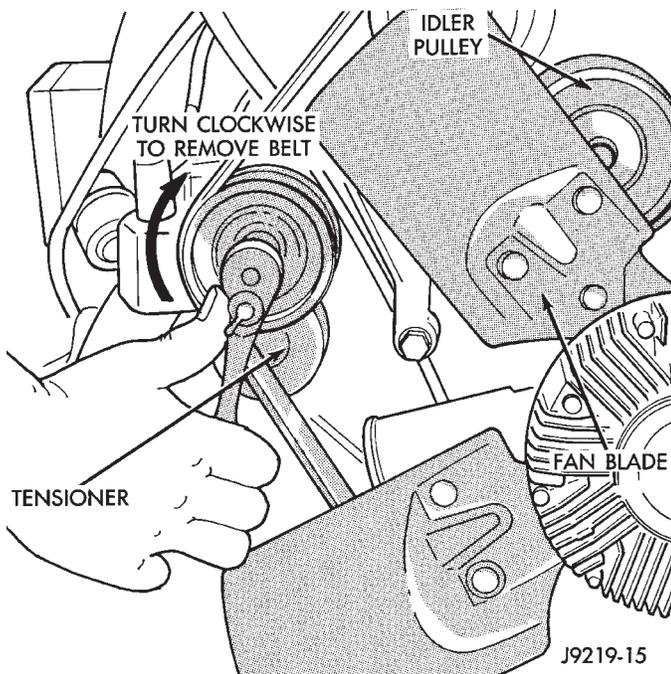

Fig. 34 Belt Tensioner Assembly—5.2/5.9L Engines
(6) Remove fan shroud and fan blade/viscous fan drive assembly from vehicle as a complete unit.
(7) After removing fan blade/viscous fan drive assembly, **do not** place thermal viscous fan drive in horizontal position. If stored horizontally, silicone fluid in viscous fan drive could drain into its bearing assembly and contaminate lubricant.
(9) Remove accessory drive belt as follows: The drive belt is equipped with a spring loaded automatic belt tensioner (Fig. 34). Relax tension from belt by rotating tensioner clockwise (as viewed from front) (Fig. 34). When all belt tension has been relaxed, remove accessory drive belt.
- (10) Relax tension from belt tensioner (Fig. 34). Install drive belt.